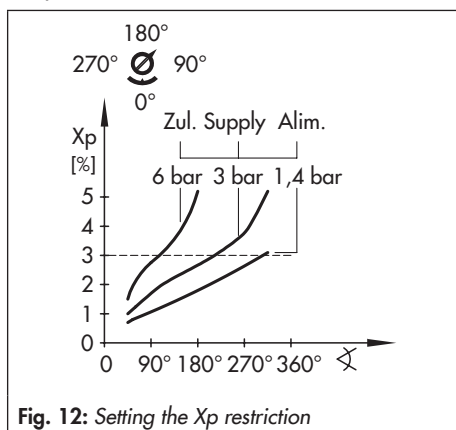

Fig. 12: Setting the Xp restriction
On setting the Xp restriction, observe the relationship with the supply air pressure as indicated in Fig. 12. The preset value of Xp should be approximately 3 %.
- ➔ The adjustment range of the Xp restriction is restricted by the pointer and stop to one turn (Fig. 12). Do not remove the pointer.